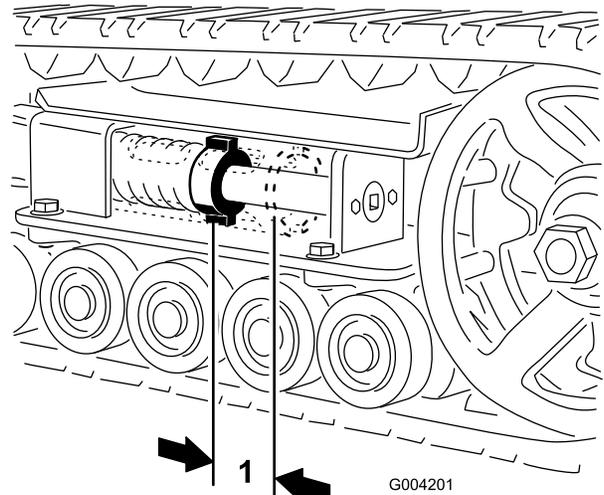
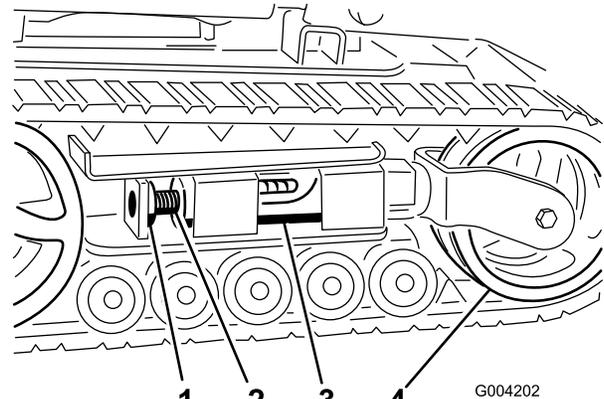
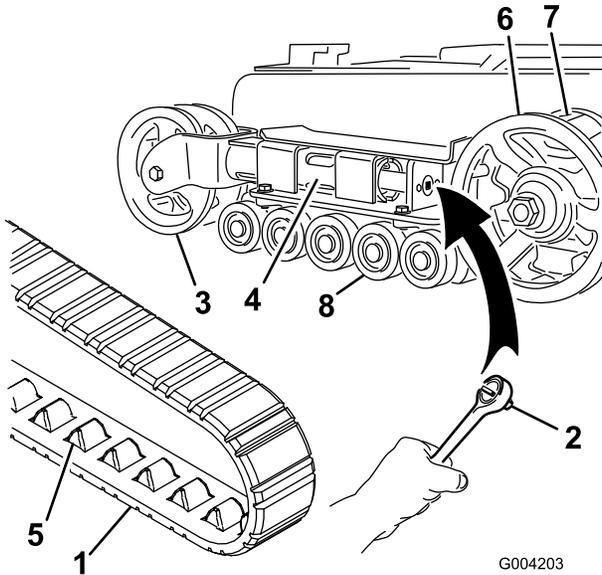

Figure 44
Figure 45
Figure 46
There should be 2-3/4 inches (7 cm) between the tension nut and the back of the tension tube (Figure 44). If not, adjust the track tension using the following procedure:
3. Remove the locking bolt and nut (Figure 45).
4. Using a 1/2 inch drive socket (Figure 46), turn the tensioning screw counter-clockwise until the distance between the tension nut and the back of the tension tube (Figure 44) is 2-3/4 inches (7 cm).
5. Align the closest notch in the tension screw to the locking bolt hole and secure the screw with the locking bolt and nut (Figure 45).
4. Using a 1/2 inch drive socket, release the drive tension by turning the tensioning screw clockwise (Figure 45 and Figure 46).
5. Push the tension wheel toward the rear of the unit to move the fork tube against the frame (Figure 46). (If it does not touch the frame, continue turning the tensioning screw until it does.)
7. When the track is off of the tension wheel, remove it from the drive sprocket and road wheels (Figure 46).
8. Beginning at the drive sprocket, coil the new track around the sprocket, ensuring that the lugs on the track fit between the spacers on the sprocket (Figure 46).
9. Push the track under and between the road wheels (Figure 46).
11. Turn the tensioning screw counter-clockwise until the distance between the tension nut and the back of the fork tube (Figure 44) is 2-3/4 inches (7 cm).
4. Using a 1/2 inch drive socket, release the drive tension by turning the tensioning screw clockwise (Figure 45 and Figure 47).
17. Turn the tensioning screw counter-clockwise until the distance between the tension nut and the back of the tension tube (Figure 44) is 2-3/4 inches (7 cm).